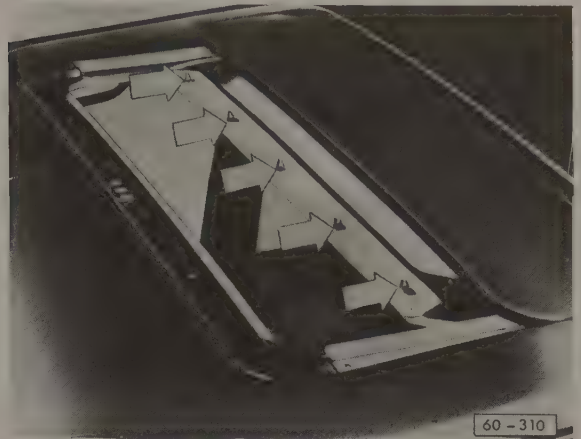

Fig. 7-1. Five clips (arrows) that hold trim panel to sunroof.
1. Open the sunroof halfway. Use a wooden or plastic wedge to pry the front edge of the trim panel from the sunroof. See Fig. 7-1. Pry as close as possible to each of the clips. Remove the clips and push the panel back into the roof.
1. Open the sunroof halfway. Use a wooden or plastic wedge to pry the front edge of the trim panel from the sunroof. See Fig. 7-1 above. Pry as close as possible to each of the clips. Remove the clips and push the panel back into the roof.